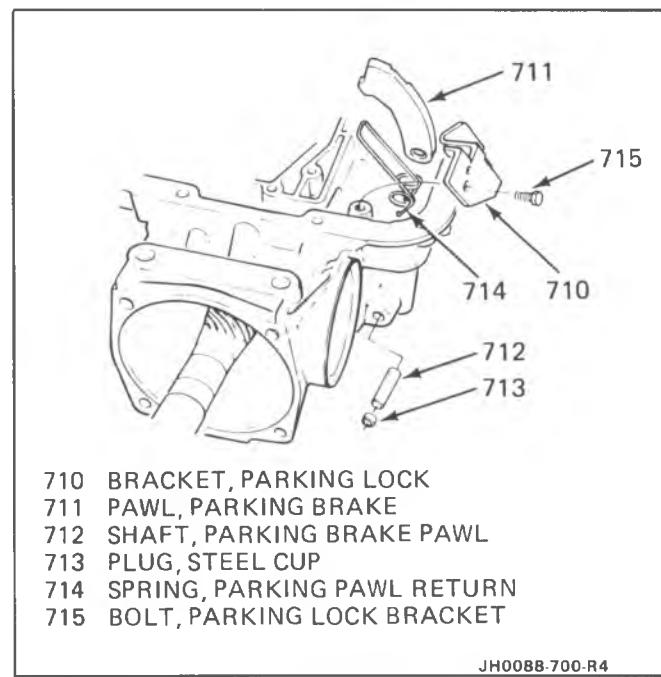

Figure 36 Parking Pawl Installation
Parking Pawl**Inspect (Figure 36)**
- Parking pawl (711) for cracks, burrs, or damage
- Parking pawl return spring (714) for distortion or damage
- Parking pawl pivot shaft (712) for damage and freeness of fit with the parking pawl
**Install or Connect (Figure 36)**
1. Parking pawl (711) and parking pawl return spring (714) into the case
2. Parking pawl pivot shaft (712) into the parking pawl (711) and the case
3. Retaining plug (713) into the case